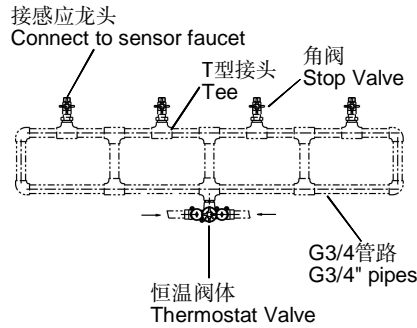

Fig.1
- 1.如果配合多个感应龙头使用,需构建平衡管路,如 Fig.1 所示。
- 1.If thermostat valve works with more than one sensor faucets, should construct a pressure balancing pipe loop as Fig.1 shown.
如果配合多个感应龙头使用,需构建如 Fig.1 所示的平衡管路。
If thermostat valve works with more than one sensor faucets, should construct a pressure balancing pipe loop as Fig.1 shown.